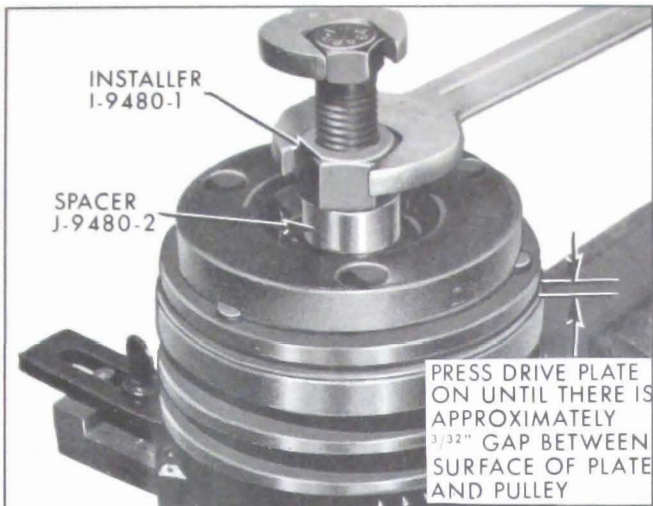

Figure 11-79—Installing Drive Plate Assembly
3. Place "Free" spacer J-9480-2 on drive plate installer J-9480-1 and thread installer on end of compressor shaft. See Figure 11-79. Press the drive plate on shaft until there is approximately 3/32" (.094") space between the frictional faces of the drive plate and pulley as shown.